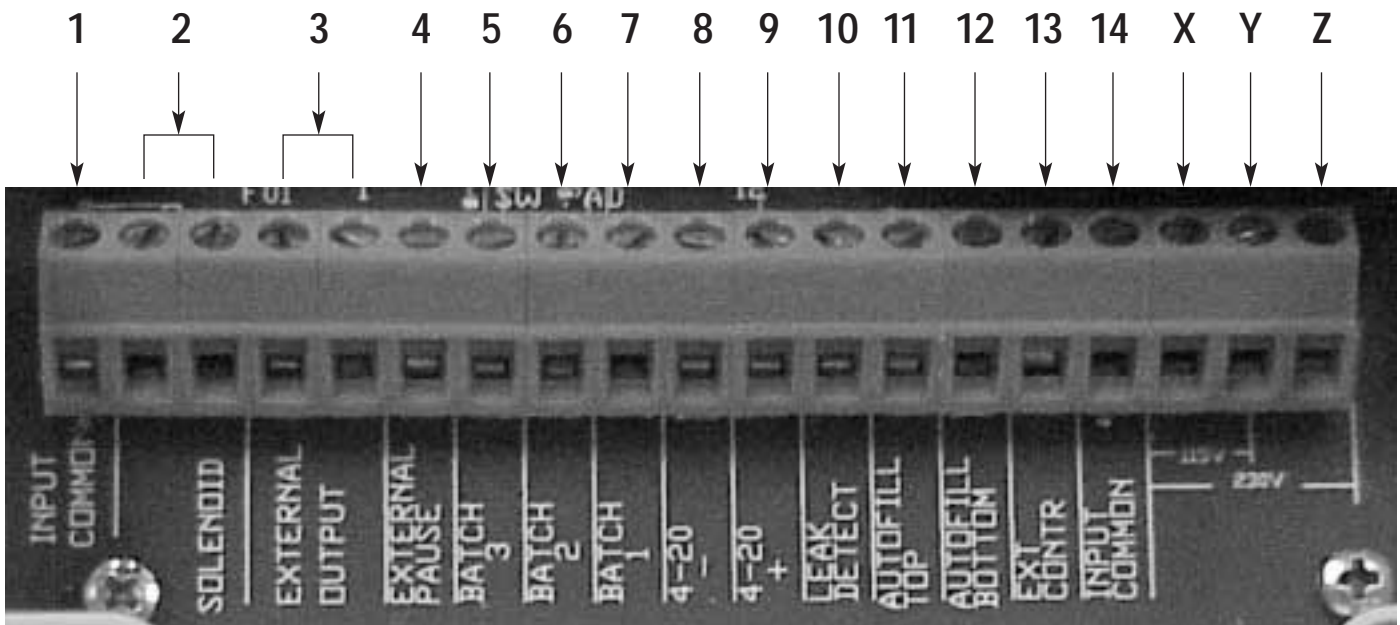

Figure 1
- 110–120V AC 50/60 Hz (Figure 1, pg. 5A, X and Y).
- 220–230V AC 50/60 Hz (Figure 1, pg. 5A, X and Z).
The FCSII has a terminal for an external leak detect stop interface. The external leak detect stop can be wired to any device that can provide a dry contact closure (relay or switch). This will remotely switch the FCSII to the stop mode. (See Figure 1, pg. 5A, Number 10.)
The bottom and top switches share one common terminal marked “Input Common”. The other wire from the top switch is connected to “Top” terminal (Figure 1, pg. 5A, number 11).
1. The “Bottom” switch which is normally closed (i.e. closed when not buoyed by liquid) remains in the bottom position, but is wired to the “Top” terminal (Figure 1, pg. 5A, number 11).
2. The “Top” switch which is normally open (i.e. open when not buoyed by liquid) remains in the top position, but is wired to the the “Bottom” terminal (Figure 1, pg. 5A, Number 12).
The other bottom lead is connected to the “Bottom” terminal (Figure 1, pg. 5A, number 12).